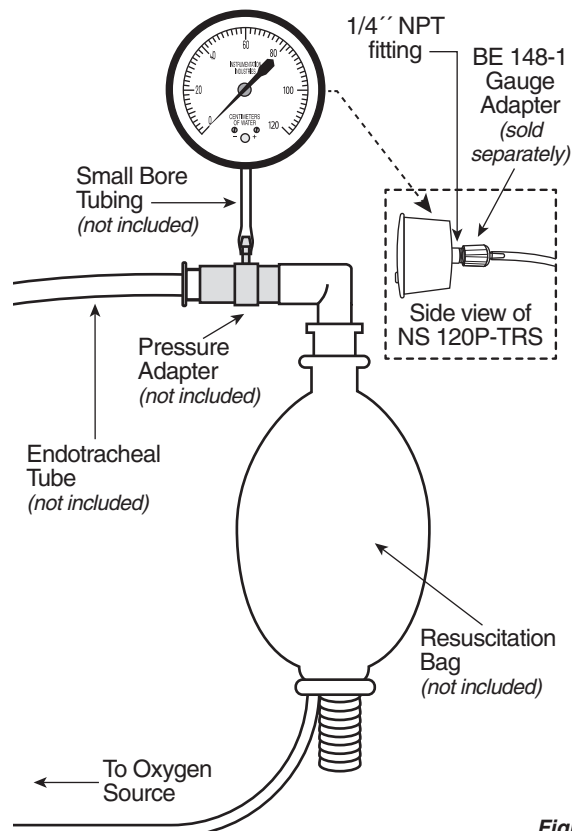

Figure 1
3. Attach a length of **Small Bore Tubing** to **Pressure Gauge** to the rear **1/4" NPT Connection** using a **BE 148-1 Gauge Adapter** (not included)\*. (Panel F — Figure 1)
4. Connect the **Other End of Small Bore Tubing** to **Pressure Adapter**. (Panel F — Figure 1)